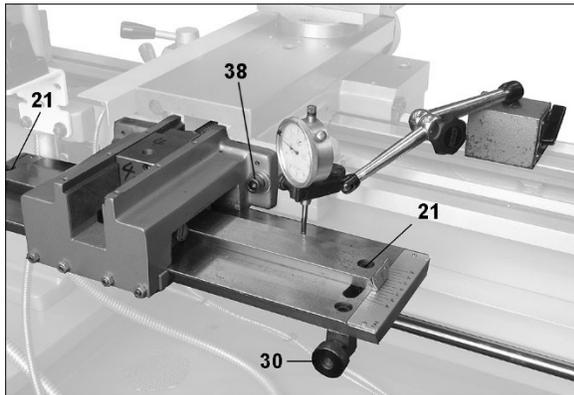

Figure 4
- Attach a dial indicator with magnetic base to lathe bed (Figure 4), and level the longitudinal slide to the bedway. The slide assembly is level when deviation is less than 0.005" from end to end. Use rubber mallet or dead blow hammer to nudge base casting as needed, until slide is level with bedways.
14. Securely tighten two screws (38, Figure 4) to hold base casting in place.
16. Loosen screws at each end of taper bar, (#21, Figure 4) and rotate knurled knob (#30) to set taper bar at 0-degrees. Tighten screws.